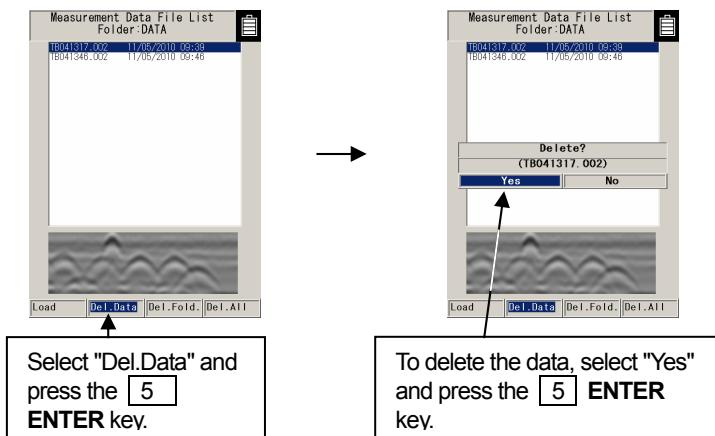

Figure 3-24 Deleting Saved Data
When the message "Delete? Yes/No" is displayed, select **Yes** using the cursor keys **◀▶**, and press the **[5] ENTER** key. (See Figure 3-24.)
(1) Procedure for using the charger
a) Mount the battery in the charger (see Figure 3-24-(1))